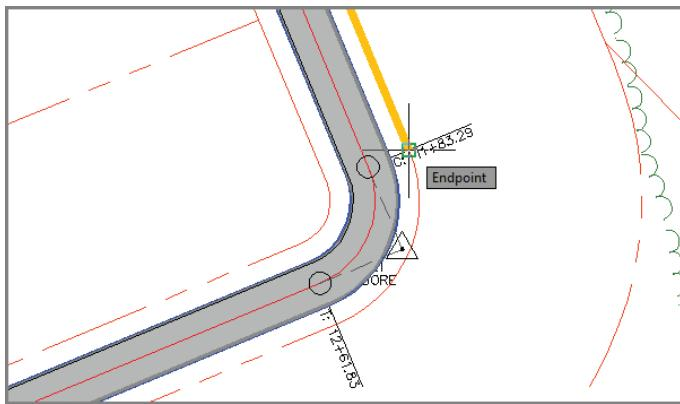

FIGURE 12.10 Selecting the endpoint of the frontage
- Move your cursor in a southeastern direction along the frontage line. Note the orange “highlighter” that follows your cursor. Snap to the endpoint of the curve at station 11+83.29 (0+360.67), as shown in Figure 12.10.